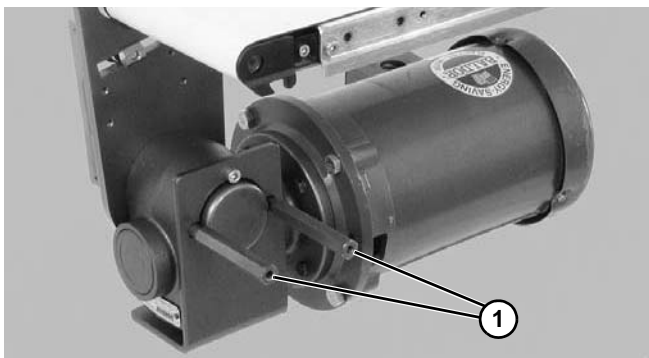

Figure 34
2. Remove hex support posts (**Figure 34, item 1**).